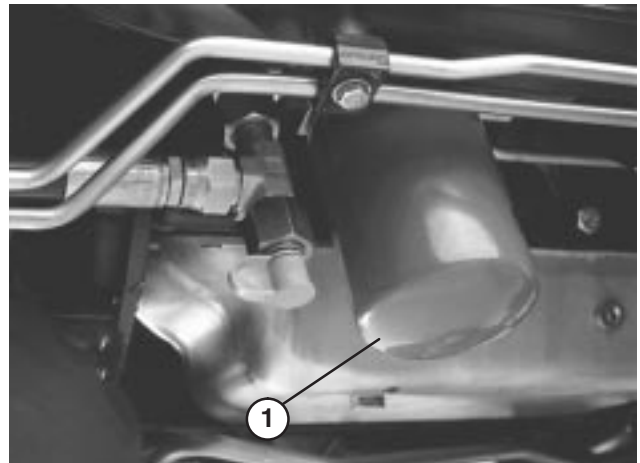

Figure 37
REPLACING HYDRAULIC FILTER (Fig. 37)
2. Clean area around filter mounting area (Fig. 37). Place drain pan under filter and remove filter.